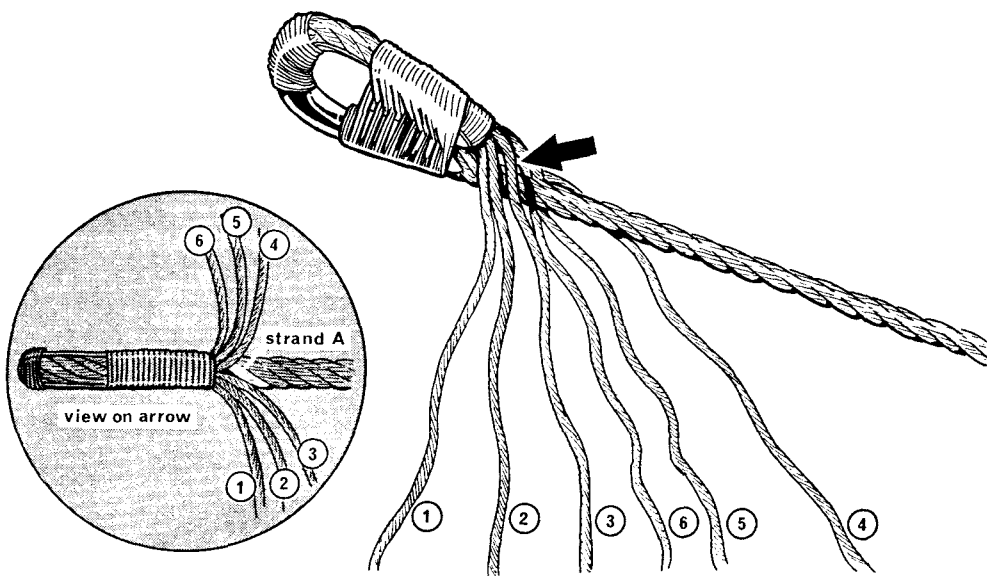

Fig 9.5 Splicing a Hard Eye (1)
- Divide the six strands into two sets of three and arrange them so that they lay to either side of the standing part (Fig 9.5). Each strand must be separate and they must not cross one over the other.
- It should be possible to see the standing part close to the thimble between the two sets of strands. Locate a single strand on the standing part which is central between the two sets of strands and as close to the point of the thimble as possible—strand A in Fig 9.5.